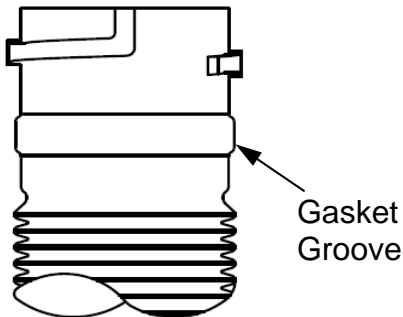
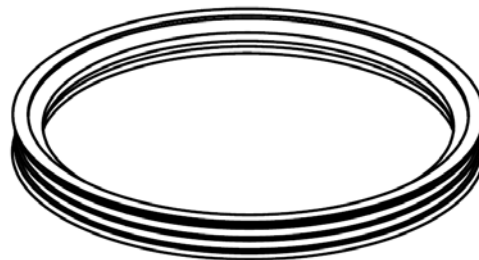

Figure 15
Figure 16
1. Install flexible pipe gasket into the gasket groove (just below the twist lock grooves) of the cut flex as shown (Fig 15). Ensure the flat side (Fig 16) of the gasket is to the outside (touching the flex). If a tapered/lead-in side of the gasket is offered (Fig 16 & 17), make sure it is on the top side of the female flex pipe to accept the mating pipe/flex section correctly.
1. Place flexible gasket as shown previously (Fig 15) into gasket groove.